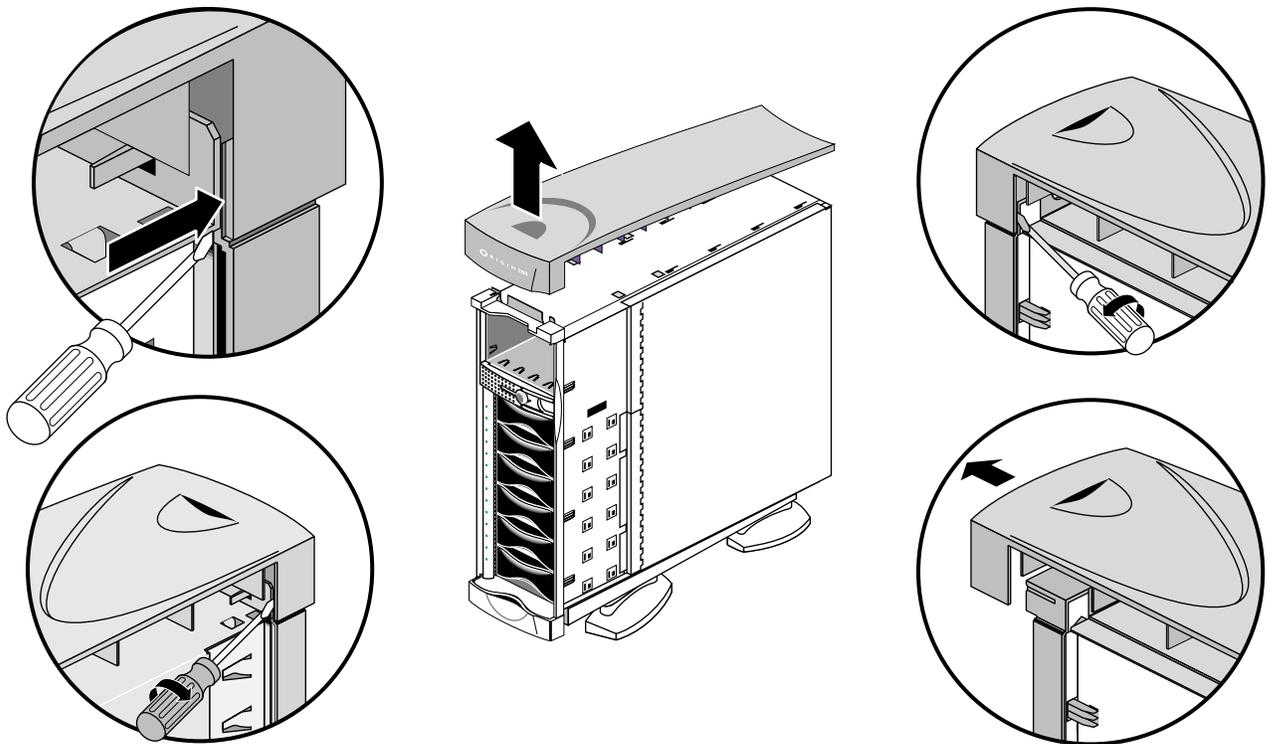

Figure 5-8 Removing the Top Cap
1. Remove the top cap, as shown in Figure 5-8.
- Insert a flat-blade screwdriver between the top cap and sheet metal, as shown in Figure 5-8.
- Repeat this step on the opposite side of the top cap, as shown in Figure 5-8.